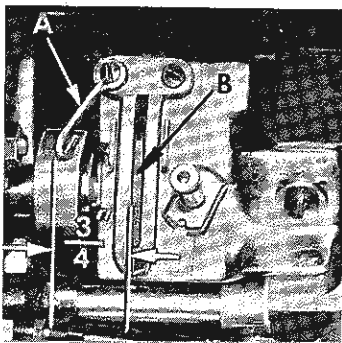

Fig. 13
Set the looper thread guide eyelet (A, Fig. 13) so its left outer surface is $\frac{3}{4}$ inch from the left side of the looper thread take-up (B), (See Fig. 13).